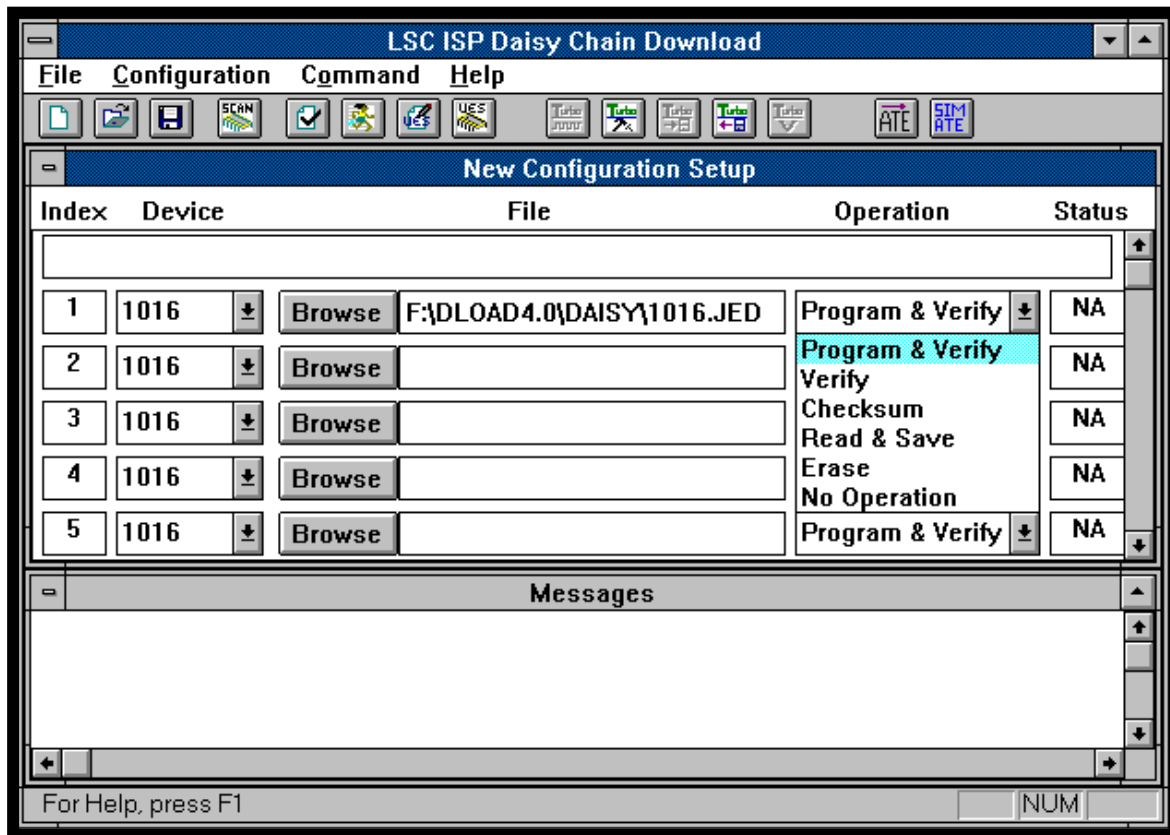

Figure 3-7. Operation Selection Options
5. Select the Operation (Figure 3-7). Use the arrow button to activate the pull-down menu.